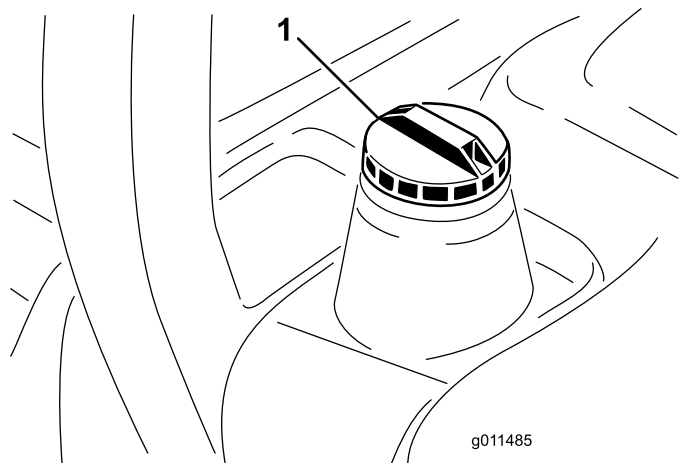

Figure 16
3. Remove the cap from the fuel tank (Figure 16).